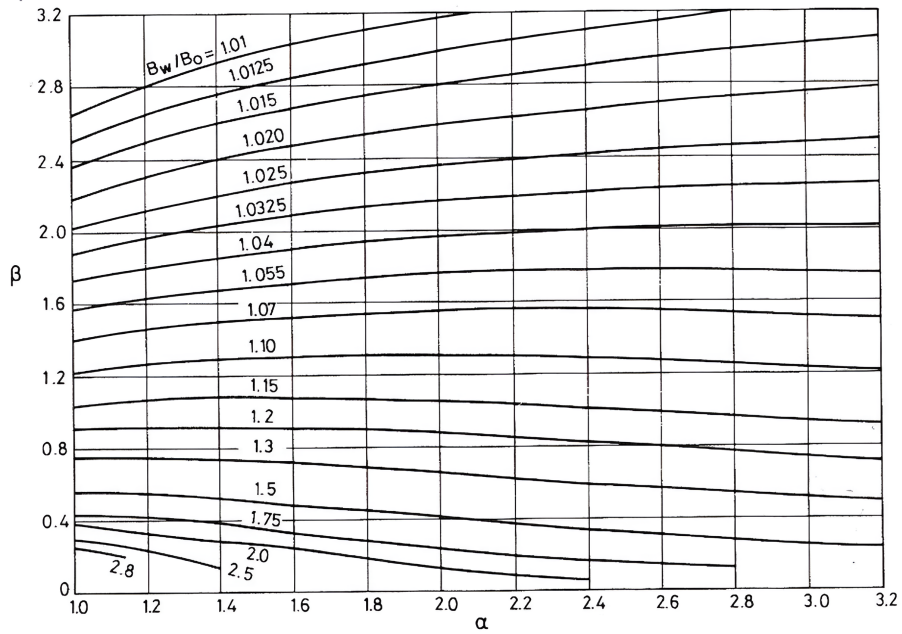

Figure 4: Ratio of maximum to central field B_w/B_0 in a simple solenoid as influenced by the shape factors α and β .
- From Fig. 4, identify the maximum field in the solenoid, B_w .